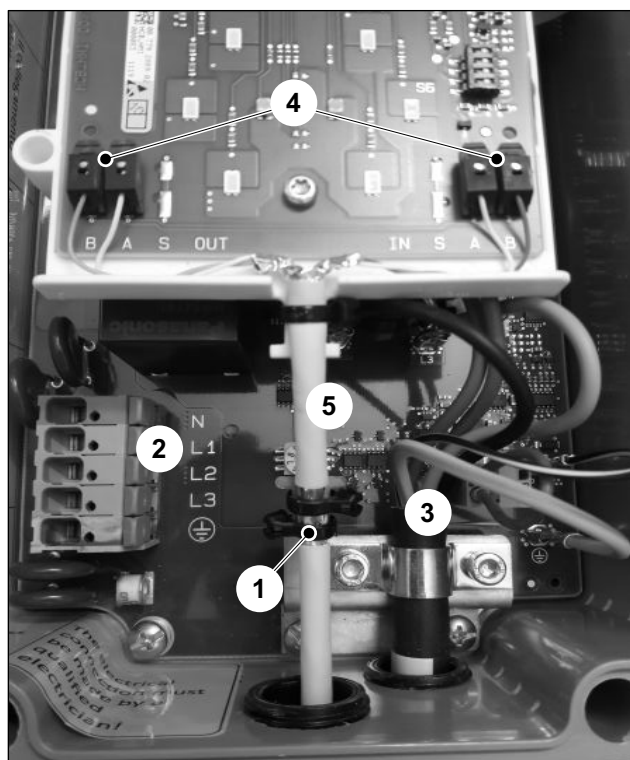

Fig. 12 Line routing for central wiring
The individual wires of the power supply (Fig. 12/2) and of the charging cable (Fig. 12/3) should be laid at the greatest possible distance from the bus lines.
3. Fasten the exposed shield to the shield support with one or two cable ties (Fig. 12/1).
4. Strip two individual wires approx. 8 mm apiece and connect these to the appropriate terminals (Fig. 12/4).
The bus line must be jacketed between the shield support and connection board (Fig. 12/5).